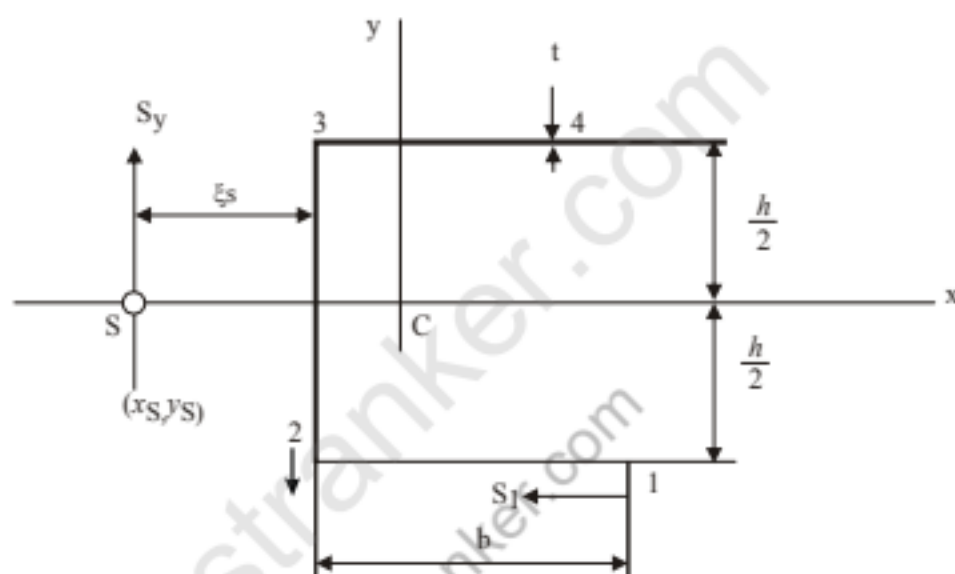

Fig 1
4. Calculate the position of the shear centre of the thin-walled channel section as shown in Fig 1. The thickness 't' of the walls is constant.